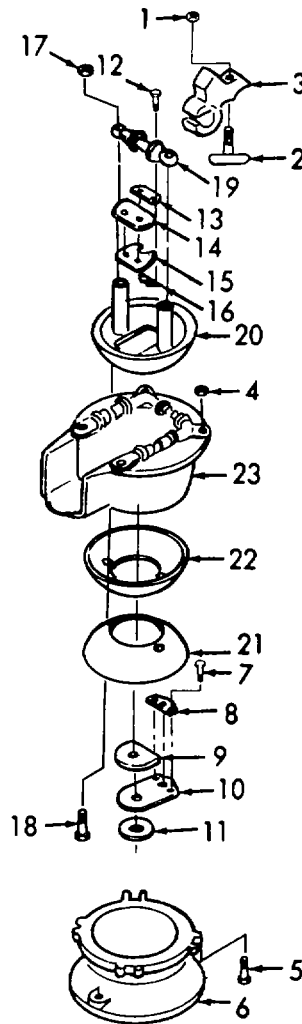

Figure 3-8. Bilge Pump, Disassembly/Reassembly.
b. Disassembly. (Refer to figure 3-8).
- (1) Remove two nuts (1) and bolt (2) and lift lever socket (3) from the pump.
- (2) Remove four nuts (4) and four bolts (5) and remove the pump base (6).
- (3) Remove two screws (7) and separate the lower valve keeper (8), valve weight (9), suction valve (10), and valve washer (11) from the base.
- (4) Remove two screws (12) and separate the upper valve washer (13), valve weight (14), suction valve (15), and valve keeper (16) from the pump.
- (5) Remove two nuts (17) and bolts (18) and remove the cross head (19). Separate top plunger (20), bottom plunger (21), and diaphragm (22) from the pump pot (23).
- (1) Refer to figure 3-8 and assemble the plunger bottom (21), diaphragm (22), top plunger (20), and cross head (19) in the pump pot (23). Secure with two bolts (18) and two nuts (17).
- (2) Assemble the upper valve keeper (16), suction valve (15), valve weight (14), and valve washer (13). Secure with two screws (12).
- (3) Assemble the lower valve washer (11), suction valve (10), valve weight (9), and valve keeper (8). Install the assembly in the pump base with two screws (7).
- (4) Fasten the upper pump to the base (6) with four bolts (5) and four nuts (4).
- (5) Install lever socket (3) on the pump and secure with bolt (2) and two nuts (1).